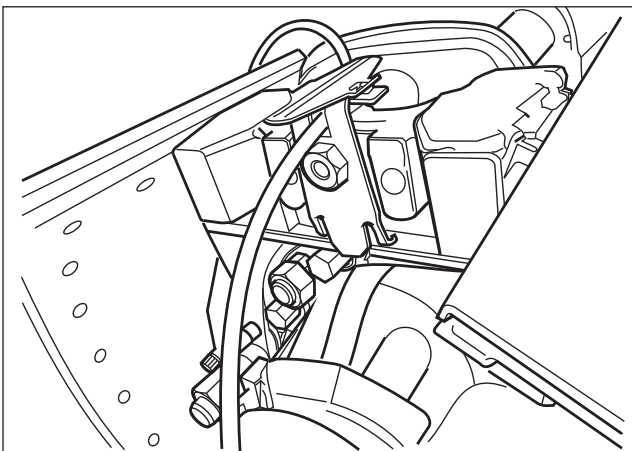

Fig. 3.21
22. Apply the appropriate brackets to guarantee the correct passages to the ABS cable. - Fig. 3.21